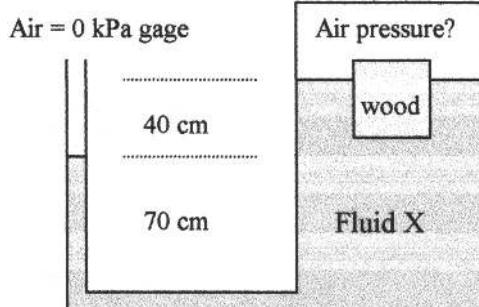

Fig. P2.126
**2.126** A block of wood ( $\text{SG} = 0.6$ ) floats in fluid X in Fig. P2.126 such that 75% of its volume is submerged in fluid X. Estimate the gage pressure of the air in the tank.